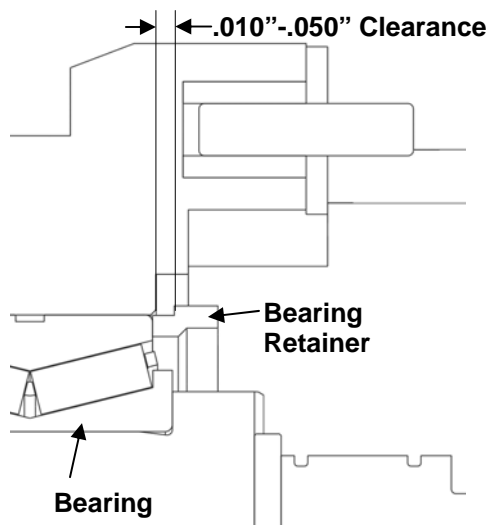
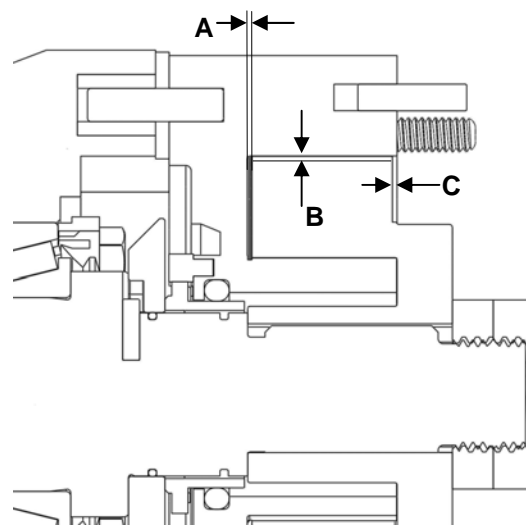

Figure 53: Bearing Retainer Clearance
Figure 54: Important Clearances
5) Once the shafts are pressed into the gear case, install the bearing retainers to hold the shafts in place temporarily (do not install liquid sealant). Ensure there is proper clearance between the retainer and the gear case, as seen in Figure 53. Place the body on the gear case, making sure it is seated correctly. Assemble the rotors into the body and tighten down using the jam nuts. Measure dimensions A, B, and C seen in Figure 54 and refer to Table 8 (page 33) to verify the clearances. If clearances are not correct, the shafts must be removed and the shims will need to be adjusted. If the clearances are correct, remove the rotors and body.